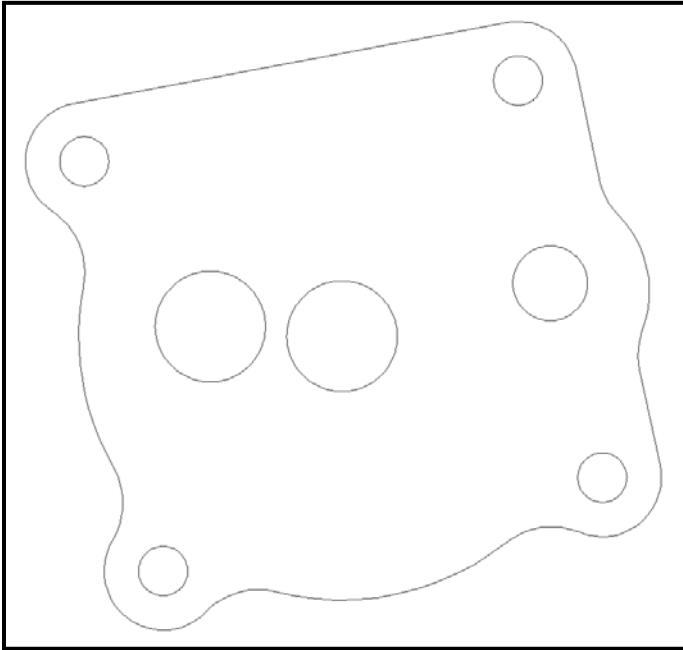
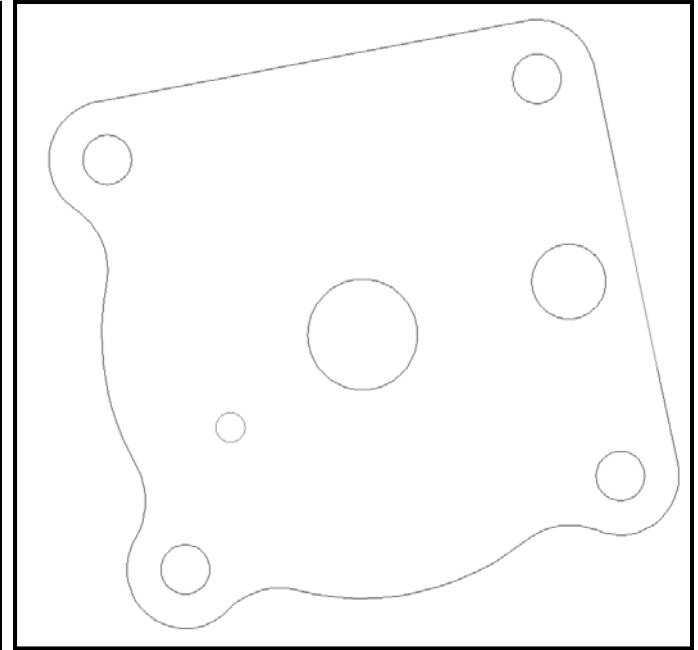
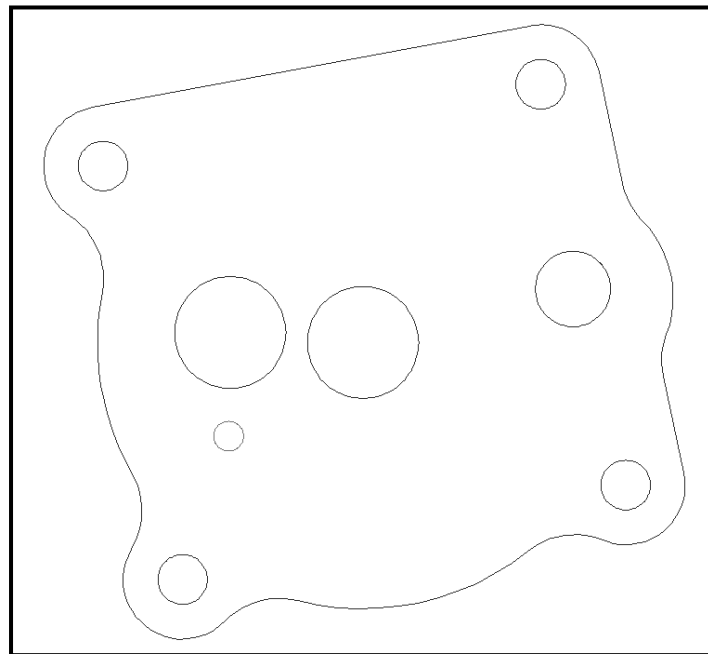

Figure 1
Figure 2
Figure 2a
5. The mounting pad on the accessory case for the OFA should be like the drawing in Figure 1, Figure 2, or Figure 2a. If the mounting pad is different, DO NOT use this adapter. Call B & C Specialty Products at (316) 283-8000. The B&C OFA is not compatible with 76 series engines or on accessory cases with "Dual Magneto" mounts (two magnetos in one case with a single drive).